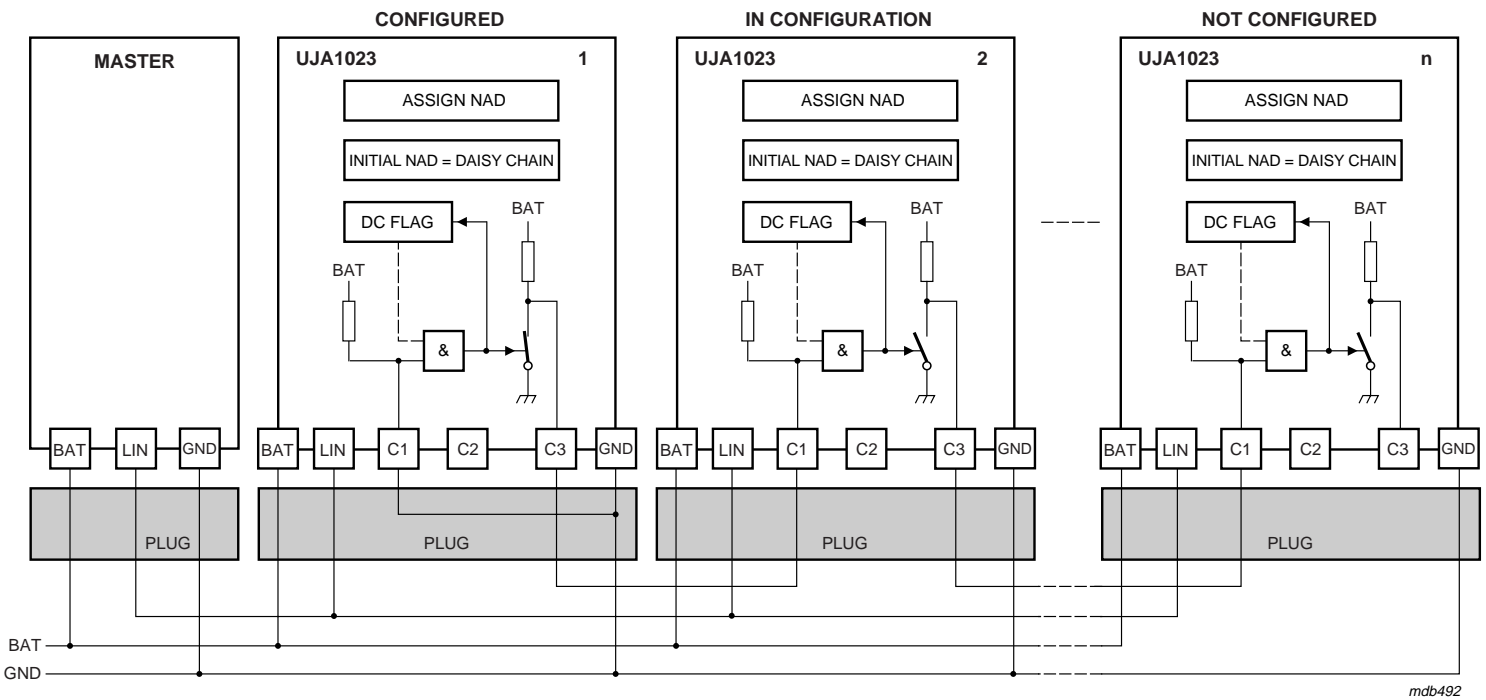

Fig 4. Daisy chain ID
- Initial NAD 0x21: The input level on the configuration pin C1 and the status flag of the internal DC-switch is read. The UJA1023 will be configured if C1 is LOW and the DC-switch is open (see slave 2 in Figure 4). The UJA1023 under daisy chain configuration uses the data byte D7 as new NAD for its further LIN configuration requests (e.g. Assign Frame ID). After the NAD assignment the DC-switch at pin C3 is closed, which puts through the daisy chain signal to the next slave. The switch will be opened again as soon as an Assign NAD request with initial NAD daisy chain off has been received.